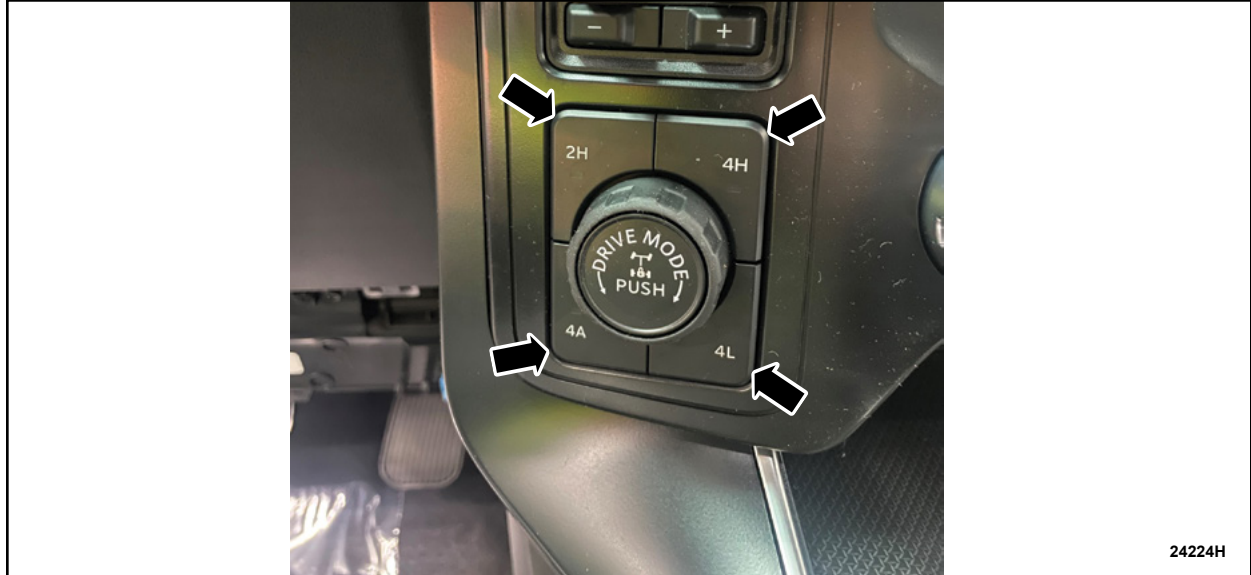

FIGURE 7
13. Verify the four wheel drive buttons are functional. See Figure 7.